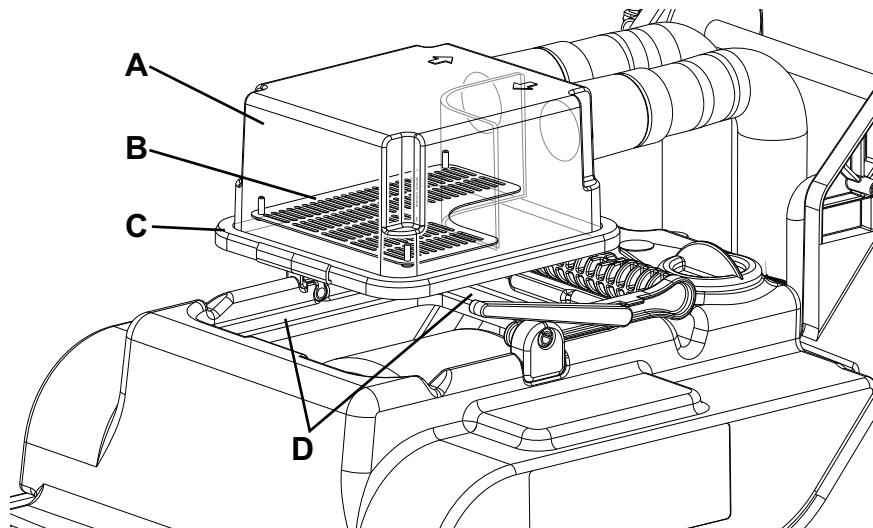

Figure 5
2. Make sure that the power supply cable (10) is disconnected from the electrical mains.
4. Open the transparent cover (A, Fig. 5) and clean it with care.
- Clean the vacuum grid (B) with care.
5. Empty and clean the recovery tank (16) as shown in Use chapter.
6. Check the transparent cover gasket (C) for integrity.